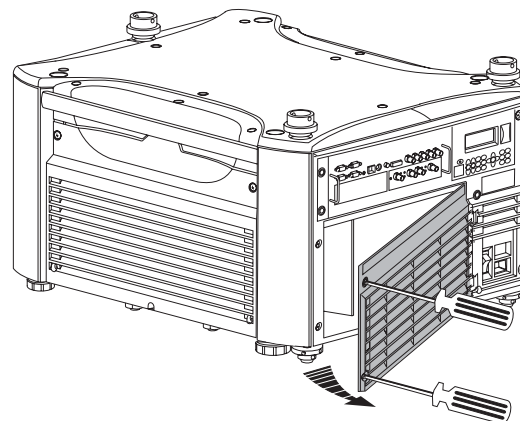

Figure 4.2. Open Lamp Door
See Figure 4.2 Loosen the (2) lockscrews securing the door.